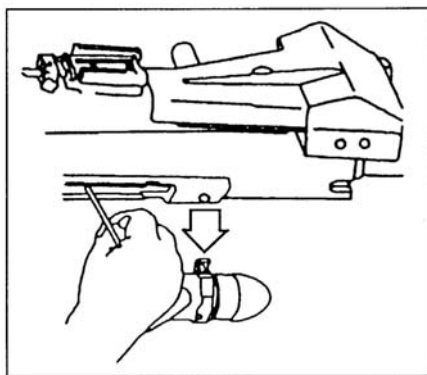

Figure 071-030-0006-1. Removal of round or spent case
1. Place the safety switch on the safe (S) position.
- a. Insert the tip of a cleaning rod through the right handrail as close to the bolt face as possible (figure 071-030-0006-1).